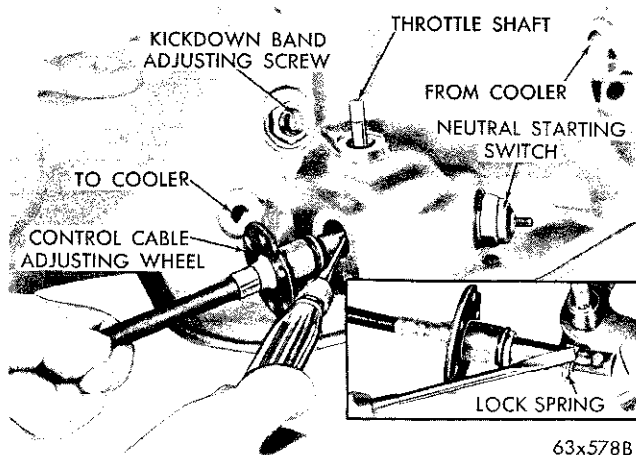

Fig. 19—Removing Gearshift Control Cable
(2) Remove the gearshift control cable to transmission adjusting wheel lock screw. Pull the cable outward just enough to allow the fluid to drain into a container.
(3) Pull the cable out of the transmission case as far as possible, back off the adjusting wheel a few turns if necessary.
(4) Insert a small screw driver above and slightly to the right of the cable (Fig. 19). Disengage the cable adapter lock spring by pushing the screw driver handle to the right while pulling outward on the cable.
The kickdown band adjusting screw is located on the left side of the transmission case near the throttle lever shaft (Fig. 19).